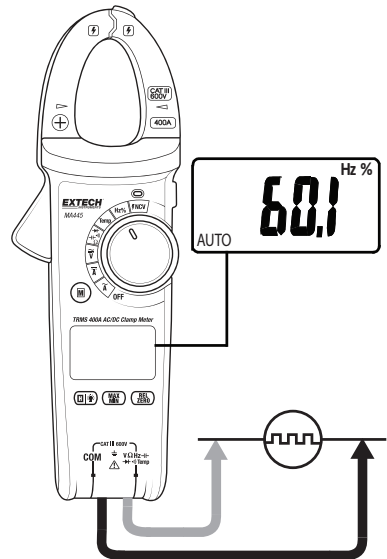

Fig. 8 – Frequency Measurements
1. Insert the black lead banana plug into the negative (COM) jack. Insert the red test lead banana plug into the positive jack. See Fig. 8.